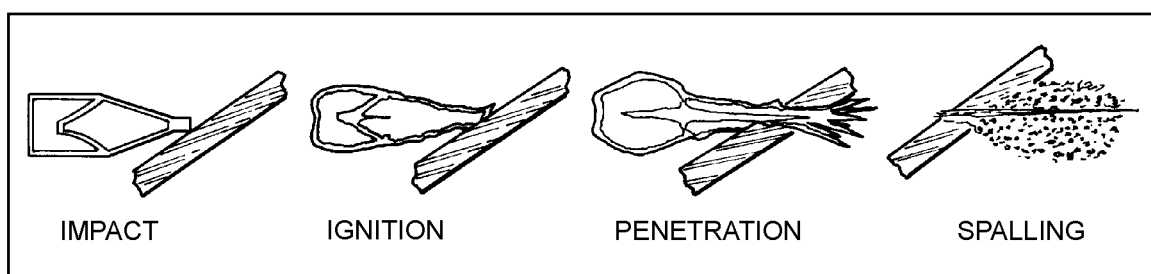

Figure 2-3. Effects of M72-series LAW warhead.
a. **Description.** The 66-mm HEAT rocket warhead consists of a tapered, thin-gauge steel body. When it explodes, the force and heat of the explosive focus into a small but powerful gas jet. This directional jet penetrates the target and, if the target is a vehicle, sprays molten metal inside. If the jet hits an engine or ammunition, it may start a fire or cause an explosion. Figure 2-3 shows how the warhead penetrates 300 millimeters of rolled homogeneous steel armor.